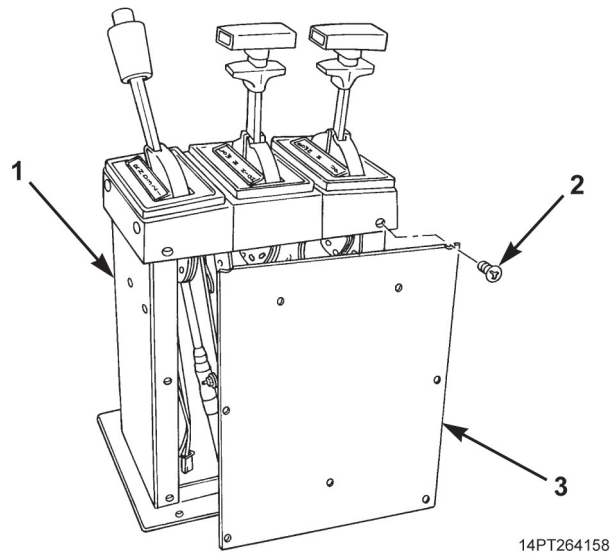

Figure 14. Rear Access Panel Installation.
14. Install rear access panel (Figure 14, Item 3) and six screws (Figure 14, Item 2) on shift tower (Figure 14, Item 1).